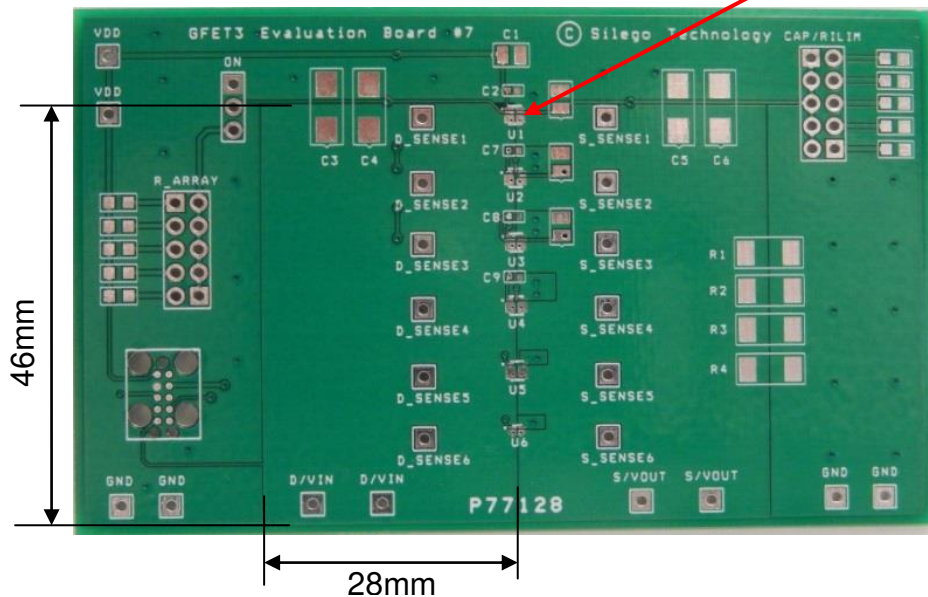

Figure 3. SLG59M1460V Evaluation Test Board
2.3. The D/VIN and S/VOUT pins carry significant current. Please note how the D/VIN and S/VOUT pads are placed directly on the power planes in Figure 3, which minimizes the $R_{ds(ON)}$ associated with long, narrow traces. The D/VIN, S/VOUT and GND pins dissipate most of the heat generated during high-load current condition. The layout shown in Figure 3 is illustrating a proper solution for heat to transfer as efficiently as possible out of the device.